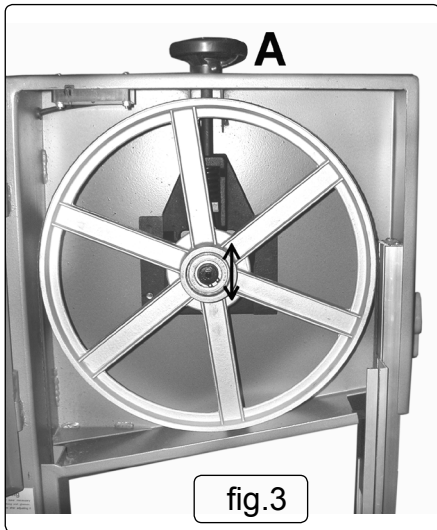

fig.3
- 5.3.1. Open blade covers and carefully rotate the upper blade wheel (fig.3) clockwise by hand, to determine whether blade is tracking correctly - blade should be on the centre of each wheel rim.
- 5.4.1. The upper blade guide should always be adjusted to about 3mm above the workpiece. To adjust: turn the adjustment knob (fig.3.C) to lower guide to required position.